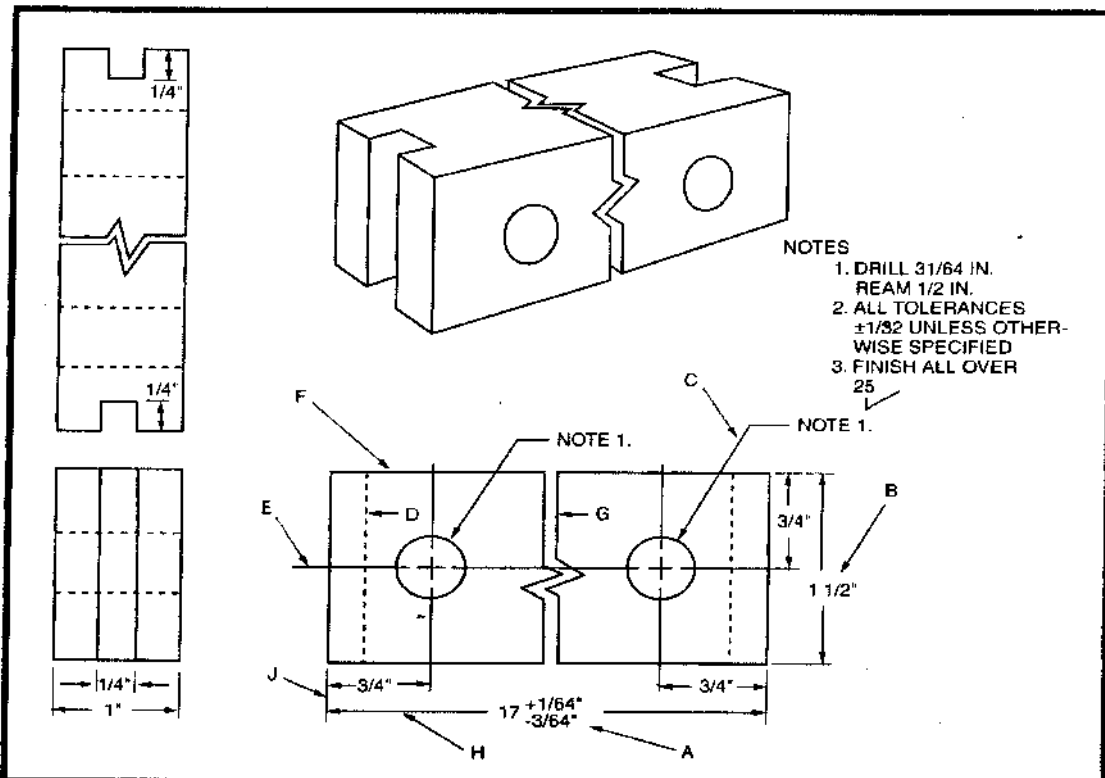

Fig. 3.11. Aircraft Drawing.
37. (Refer to figure 3.11) The diameter of the holes in the finished object is